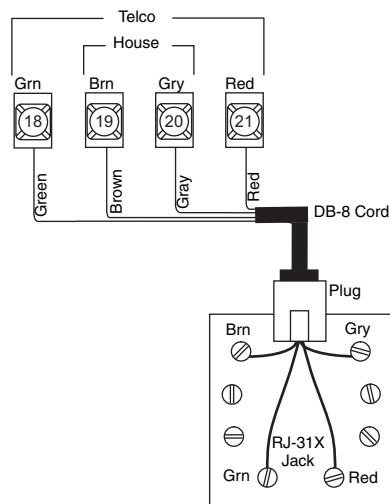

Figure 17. Connecting the DB8 Cord
1. Connect the green, brown, gray, and red flying leads from the DB-8 cord to panel terminals 18, 19, 20, and 21 (see Figure 17).
2. Insert the DB-8 cord plug into the RJ-31X (see Figure 17).